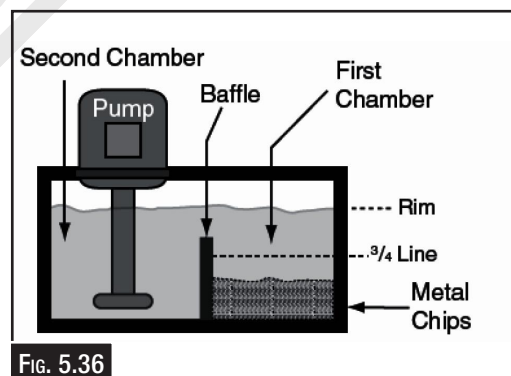

FIG. 5.36
4. Using a wooden stick, check the level of the metal chips in the first chamber (Fig. 5.36). If the chips are  $\frac{3}{4}$  the height of the baffle, then remove the chips.